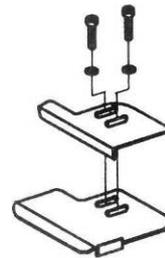

FIGURE 11. ENTRY GUIDE
4. Place a coil of strap on the plastic flange A allowing the shaft to poke through the plastic wrap. Pay-off must be from the top of the coil if the friction brake is to operate properly, as shown in Figure11.